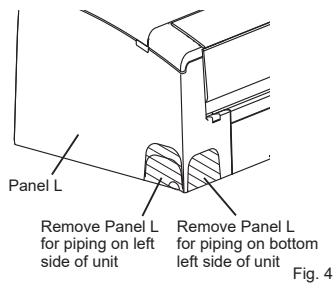
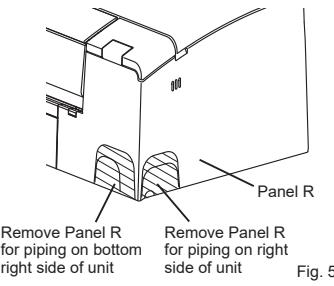

Fig. 4
Fig. 5
- 10) According to the piping direction, remove the shaded part of the panel L (Fig. 4) or panel R (Fig. 5). Reinstall electrical cover and panel assembly.
- 6) Insert the drain hose into wall hole sleeve (C), and attach the upper part of indoor unit onto the installation plate (1). Then, shift the indoor unit completely to the left to make placing the piping in the back of the unit easier.
- 7) Cut out the spacer from the packaging styrofoam and set it on the rib on the back of the indoor unit. (Fig. 5)
- 8) Connect the refrigerant piping with the extension pipe (B).
- 9) Push the lower part of the indoor unit to fit into the installation plate (1), then attach the parts in the opposite steps of removal.